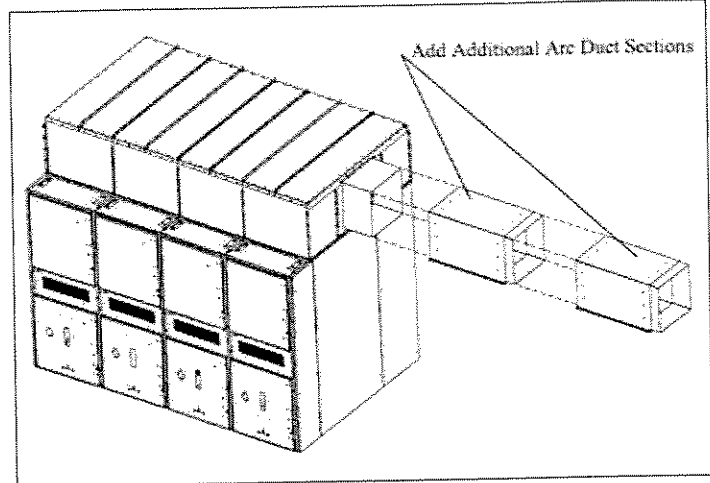

Figure 31. Joining Suspended Duct Sections.
2. If the suspended duct is to be longer than one suspended duct section, screw two duct splices (11) inside the suspended duct section using the 0.25" self-tapping screws.
3. Utilizing the 0.625 in. (15.9 mm) holes at the bottom section of the suspended duct to lift the section to its final location and join it to its mating part. Join each suspended duct section with 0.25" self-tapping screws (see Figure 31).